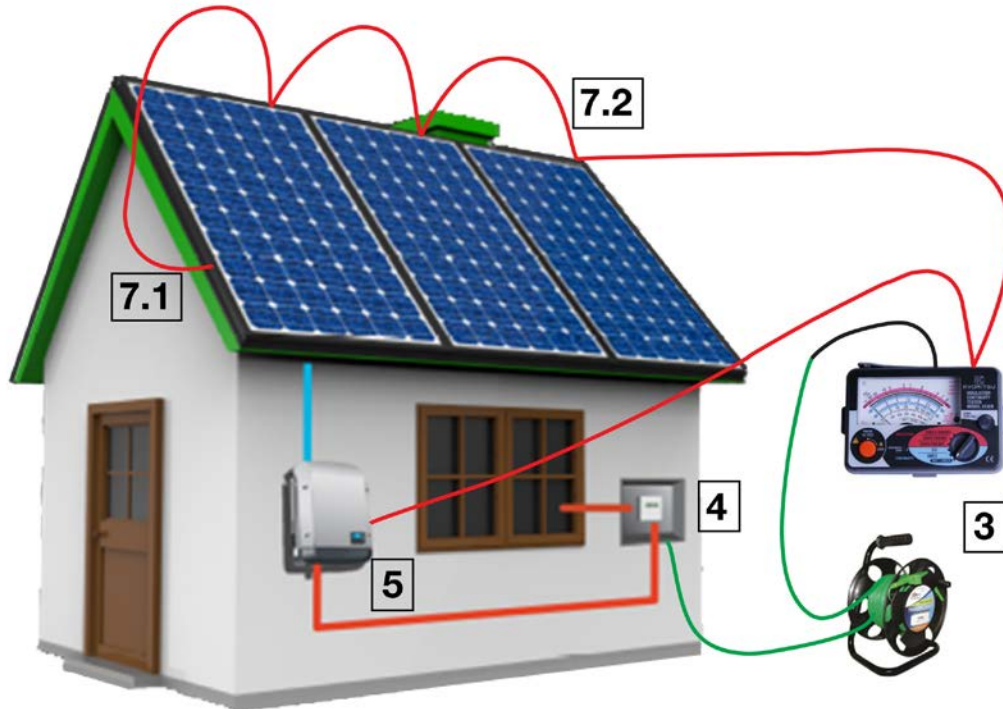

Figure 1
The following is a recommended testing process to verify compliant earthing continuity of a PV installation. (Refer to Fig. 1 above).
3. Connect a trailing earth lead and a continuity resistance tester together and zero the tester to accommodate the trailing earth lead resistance. (Refer to 3 in Fig.1)
4. Connect your trailing lead to your proven ERP. (Refer to 4 in Fig.1)
5. Verify the earth continuity to the exposed conductive parts of the solar inverter to the ERP of not more than 0.5  $\Omega$ . (Refer to 5 in Fig.1)
4. Connect a trailing earth lead and a continuity resistance tester together and zero the tester to accommodate the trailing earth lead resistance. (Refer to 3 in Fig.1)